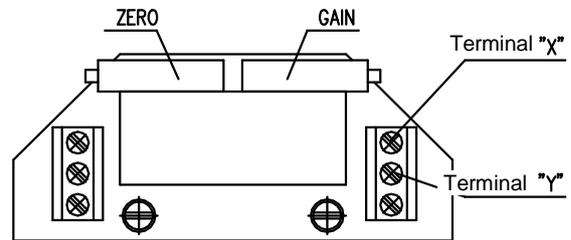

Fig. 8
3.4.2 EPV – 3-wire version (Fig. 8, 8a)
- Adjust the resistive transmitter according to the previous chapter. The resistance is to be metered on the terminals X-Y, resp. 0%-100% (Fig. 8, 8a). The used transmitter resistance is 2000 W resp. 100 W.